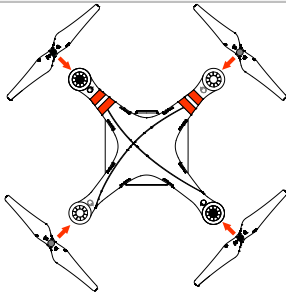

Figure 2-2
2. (Figure 2-2) Prepare the two grey nut propellers and two black nut propellers. Make sure to match the black nut propellers with the correctly marked black dot motors. Tighten the propellers according to the fastening instructions.